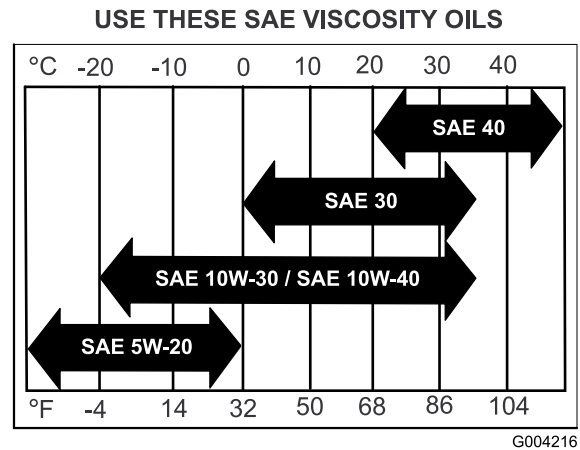

Figure 38
4. Fill the crankcase with the specified type of new oil; refer to Figure 38.